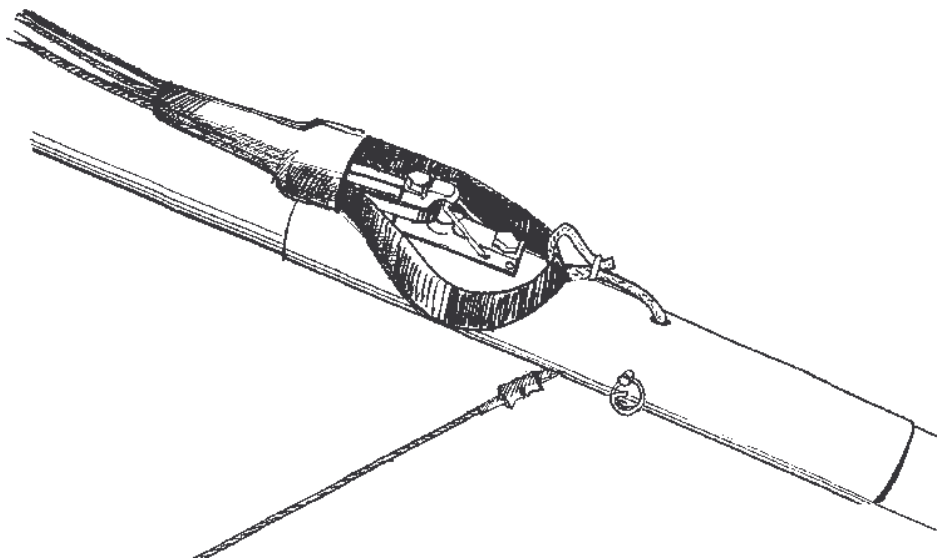

Fig. 7
2.2.5. Attach the shackle of the cross-beam tensioning wires to the hook which is placed on the keel tube (Fig. 7). Check that cross-beam wires and VG ropes are not twisted.